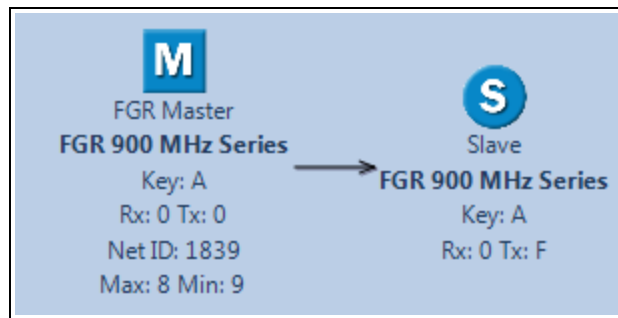

Figure 25: Example: Device Icons
7. Click **Add**. An icon for the device appears with the inherent critical settings. Figure 25